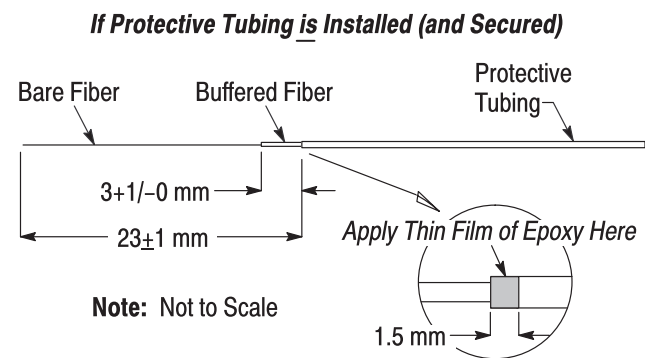

Figure 4
- b. Slide the components shown in Figure 4 onto the protective tubing, allowing 23±1 mm at the end of the tubing for stripping. Make sure to orient each component as shown.
- c. Mark the protective tubing to the dimension shown in Figure 4. Using Slot 22 of the fiber jacket stripper, strip the tubing to the marking.
- d. Using the fiber stripping tool, strip the buffered fiber to the dimension shown in Figure 4, exposing the bare fiber. Using a lint-free tissue or cloth dampened with the isopropyl alcohol or acetone, clean the bare fiber.
- f. Apply a *thin film* of epoxy around the outside edge of the tubing to the width given in Figure 4.